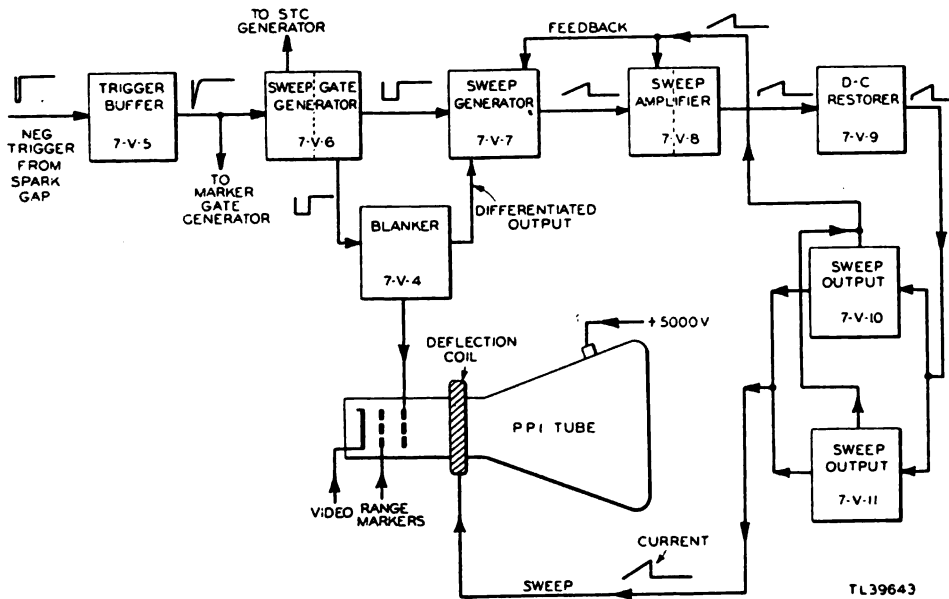
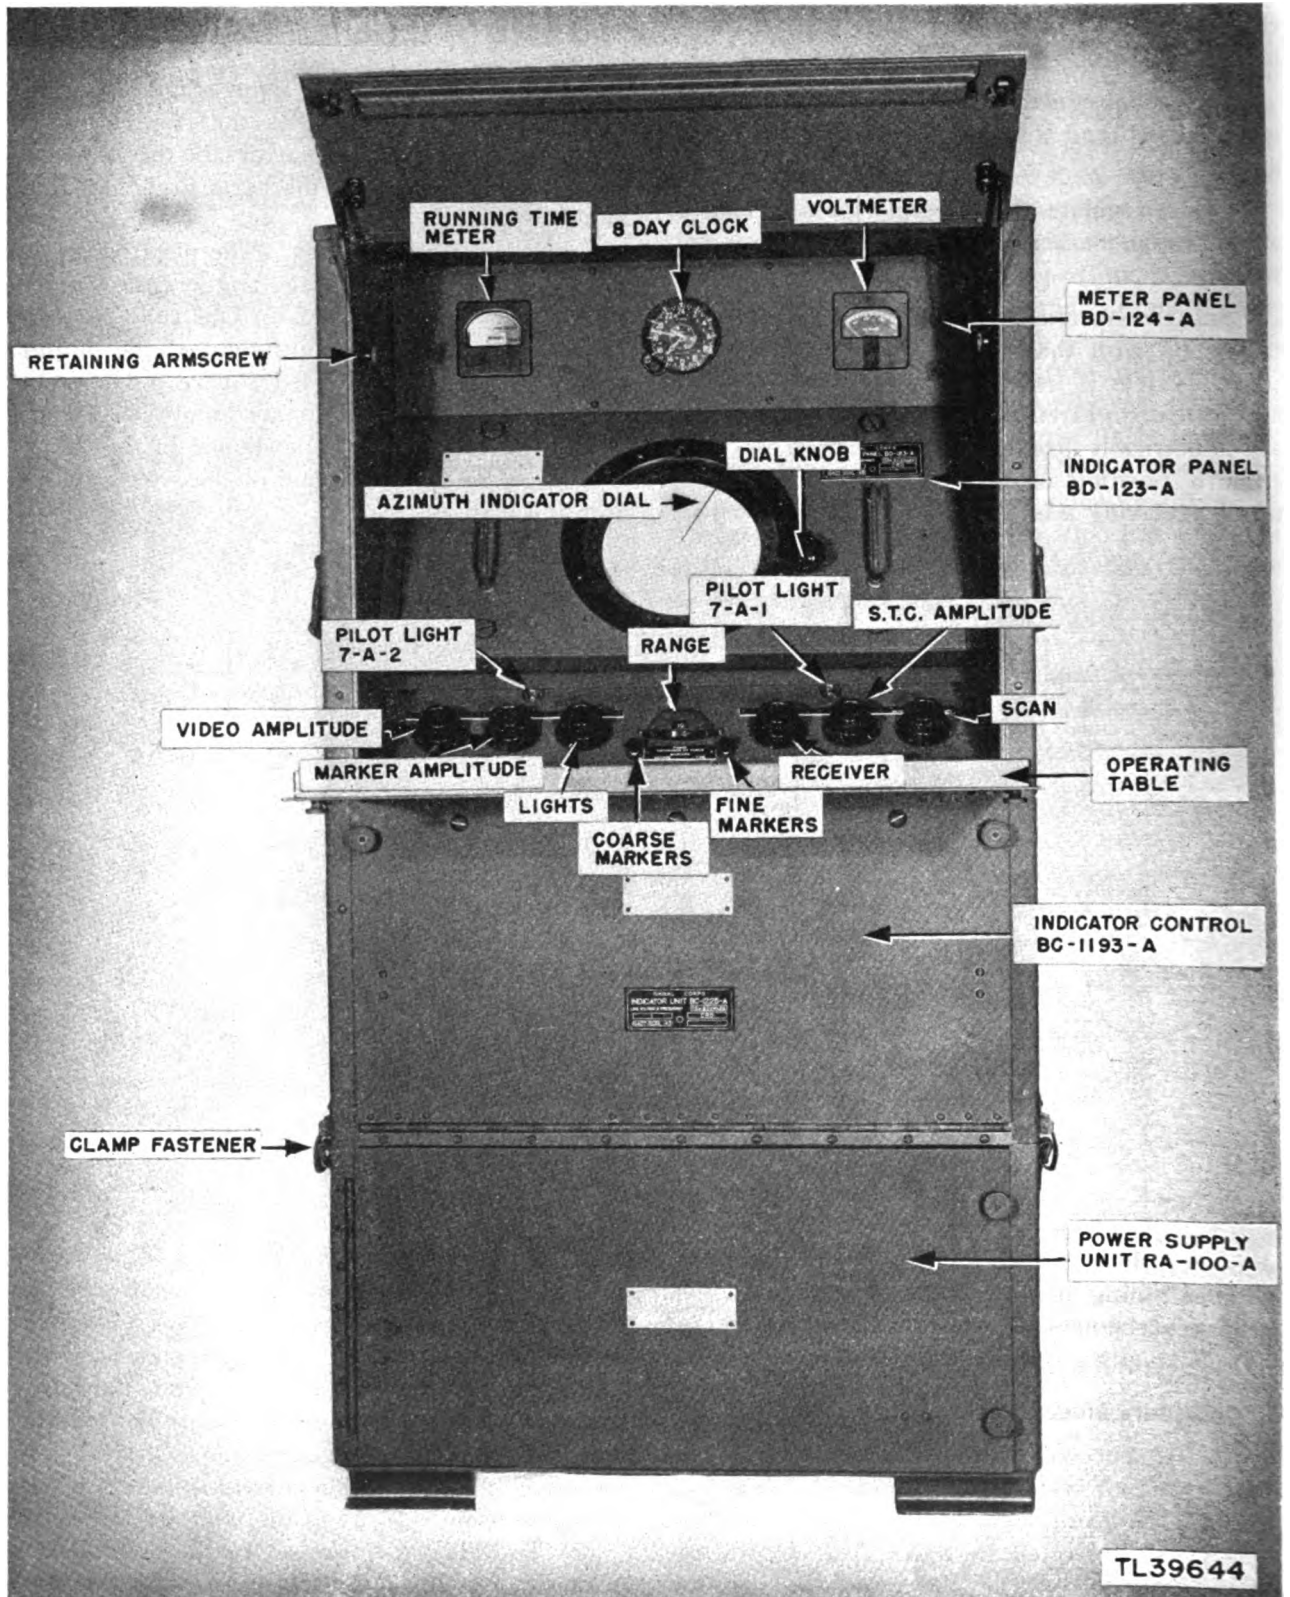
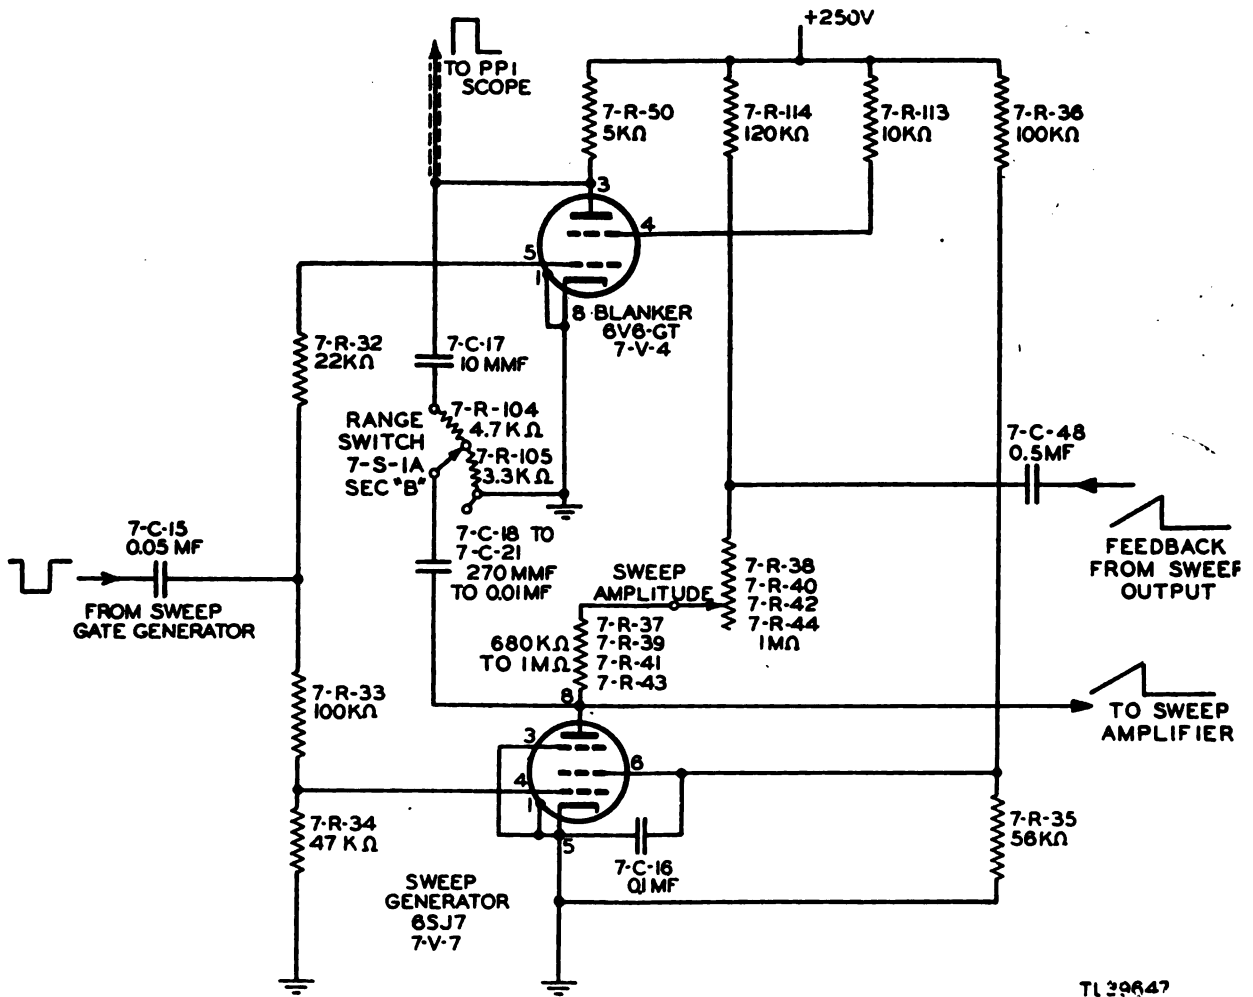

Figure 102. Indicator system, complete block diagram.
Figure 103. Indicator Unit BC-1225-A, front view.
Figure 109. Blanker and sweep generator, simplified schematic diagram.
Figure 102 represents the complete block diagram of the indicator system showing the circuit action in detail. A front view of Indicator Unit BC-1225-A is illustrated in figure 103. Operating and adjusting controls for Indicator Control BC-1193-A are indicated in figures 104 and 105. Placement of parts on the chassis of Indicator Control BC-1193-A and Power Supply Unit
c. **BLANKER.** (1) Blanking and unblanking of the scope screen during the proper intervals is controlled by the blanker stage, tube 7-V-4 (fig. 109). The negative gate output of the sweep-gate generator tube 7-V-6 second section is applied to the grid of a type 6V6-GT tube through capacitor 7-C-15. Between sweep periods tube 7-V-4 conducts heavily, dropping its plate voltage to approximately 25 volts. When a negative gate is applied to the grid, the tube is driven to cut-off. At cut-off the tube plate voltage rises to 250 volts. Since the output of this tube is directly coupled to the first anode of the PPI scope, the voltage
(2) A 22,000-ohm resistor, 7-R-32, is inserted in the grid circuit of the blanker tube to decouple it from the gate circuit. The pip voltage applied to the trapezoidal voltage wave on the 10,000- and 40,000-yard ranges (see *d* below) also originates in the output circuit of this tube.
*d. SWEEP GENERATOR.* (1) The sweep generator tube 7-V-7 is basically a switching device, the action being controlled by the gate developed in the second section of the sweep-gate generator tube. Tube 7-V-7 normally conducts. Any one of four capacitors, 7-C-18, 7-C-19, 7-C-20, or 7-C-21, may be selectively switched across the tube (plate to ground). The choice of capacitors is dependent upon the setting of the RANGE switch 7-S-1. The selected capacitor will normally be discharged. The negative gate previously mentioned is fed through capacitor 7-C-15 (fig. 109) to the input grid and drives the tube to cut-off. The capacitor which has been switched across the output now charges exponentially. The rate of charge is dependent upon the size of the selected capacitor and its associated series resistor. The charging voltage is 250 volts. The
capacitor approaches the charging potential. It is possible to charge a capacitor linearly if the charging rate is held constant. If this can be done, the resulting sawtooth will also be linear. This is accomplished in the equipment under discussion by feeding back a positive linear sawtooth voltage from the sweep output tubes 7-V-10 and 7-V-11 (fig. 102) to the plate resistor of the sweep generator stage (fig. 109). This action maintains a constant voltage drop across the appropriate pair of charging resistors, 7-R-37 to 7-R-44. The current flow through these resistors remains constant over the sweep period and therefore maintains a constant charging rate on the capacitor. The result is a voltage sawtooth waveform that is highly linear.